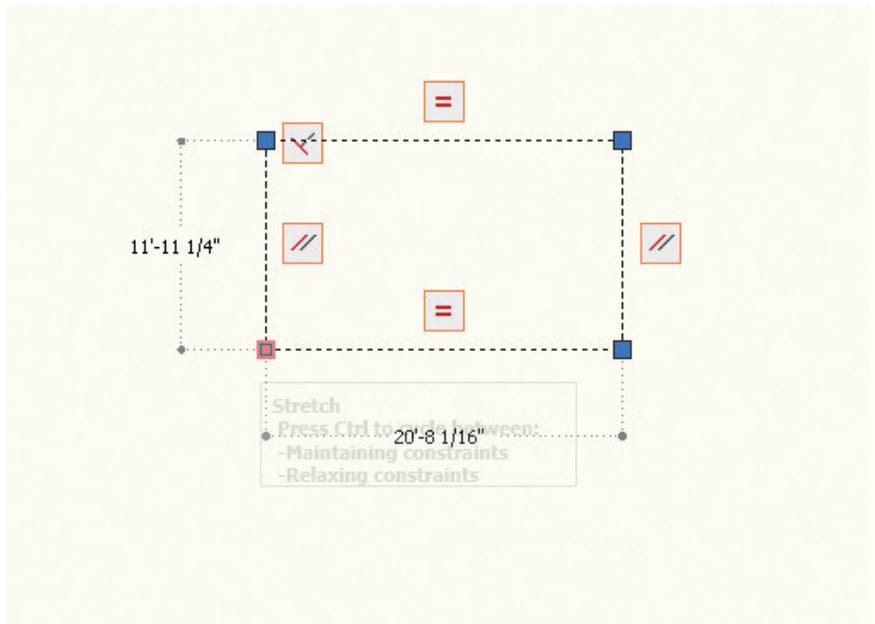

Figure 5: Relaxing constraints
4. Relax the constraints temporarily on selected objects to allow you to make the changes. With a grip selected or when you specify options during an editing command, use the Ctrl key to alternate between relaxing constraints and maintaining constraints (see Figure 5).